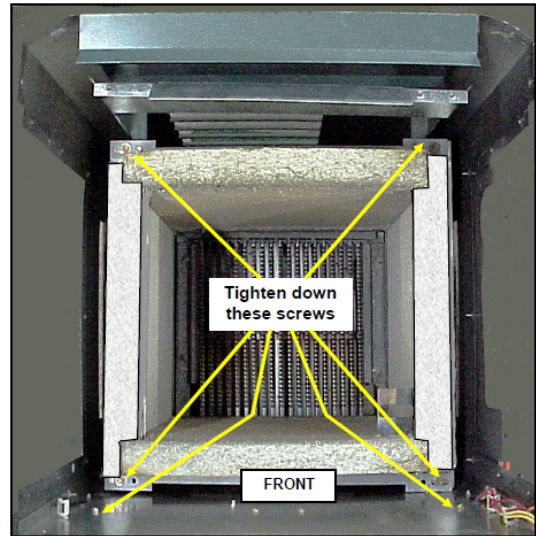

Figure 15. Tighten all Screws
25. Snug up all four corners of the refractory brackets to the refractory and tighten. Pull the refractory inward to eliminate corner gaps (See **Figure 15**).